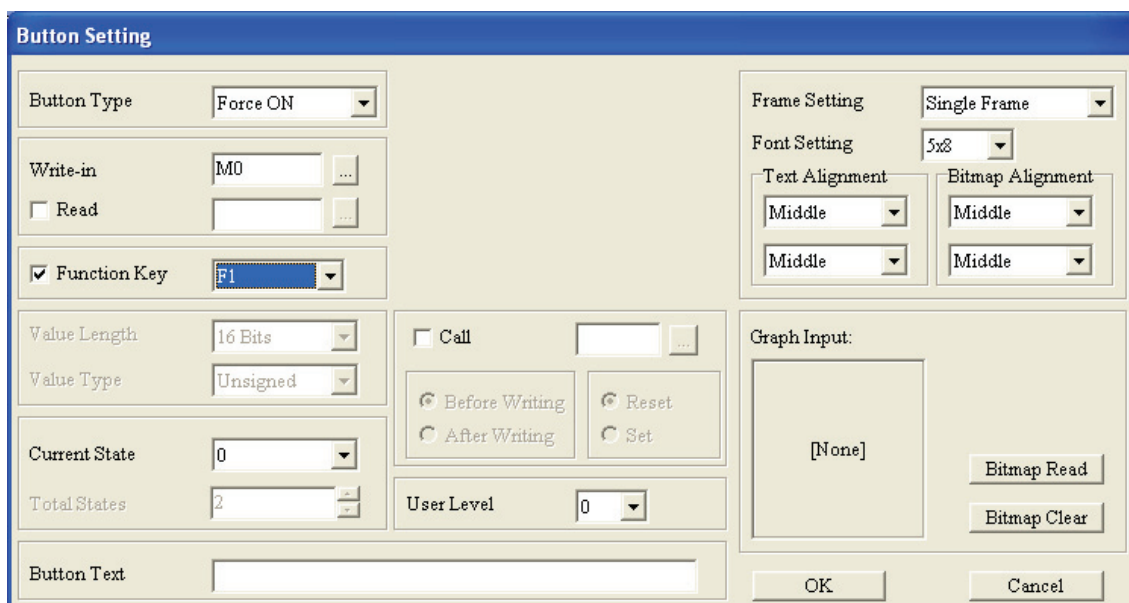

Figure 1-89
Step 2. Double-click the square  by using the mouse, and the Button Setting tab below will pop up (Figure 1-89).